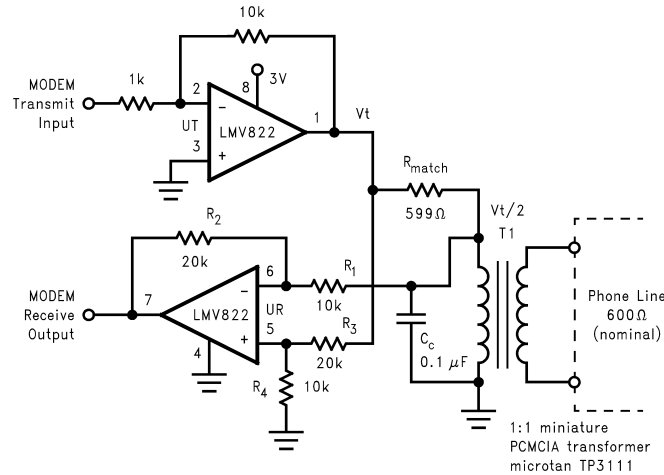

Figure 7. Telephone-line Transceiver for a PCMCIA Modem Card
The telephone-line transceiver of Figure 7 provides a full-duplexed connection through a PCMCIA, miniature transformer. The differential configuration of receiver portion (UR), cancels reception from the transmitter portion (UT). Note that the input signals for the differential configuration of UR, are the transmit voltage (V_T) and $V_T/2$. This is because R_{match} is chosen to match the coupled telephone-line impedance; therefore dividing V_T by two (assuming $R1 \gg R_{match}$). The differential configuration of UR has its resistors chosen to cancel the V_T and $V_T/2$ inputs according to the following equation: